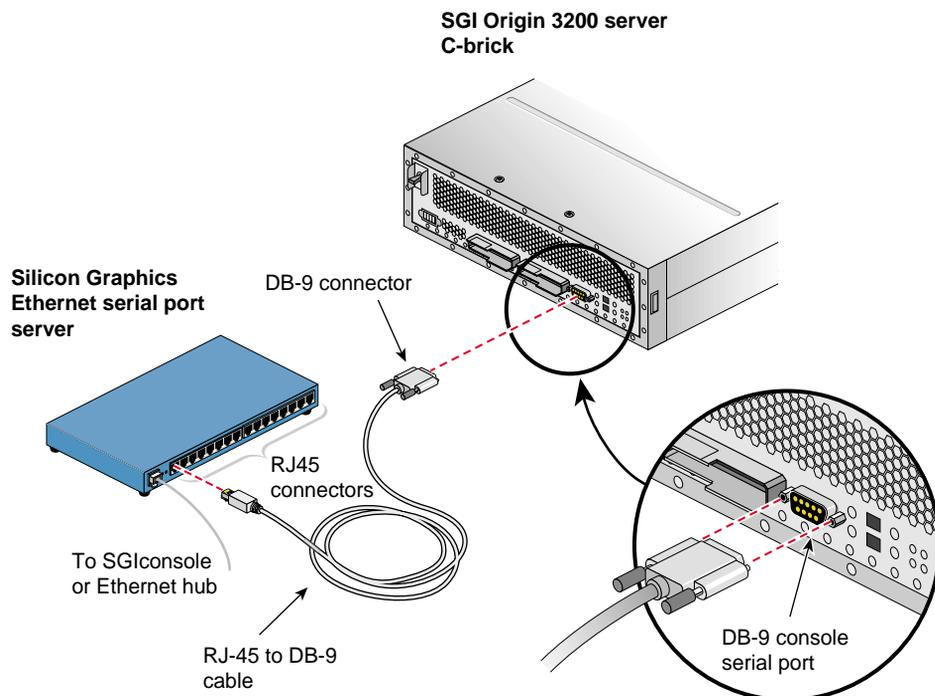

Figure 5-26 Connecting the SGI Origin 3200 Server Console Port to the Serial Port Server
6. Connect the RJ-45 end of one of the RJ-45 to DB-9 cable to one of the RJ-45 serial jacks in the Silicon Graphics EL-16 serial port server. Connect the DB-9 connector to the SGI 3200 serial port jack labeled “Console.” See Figure 5-26.